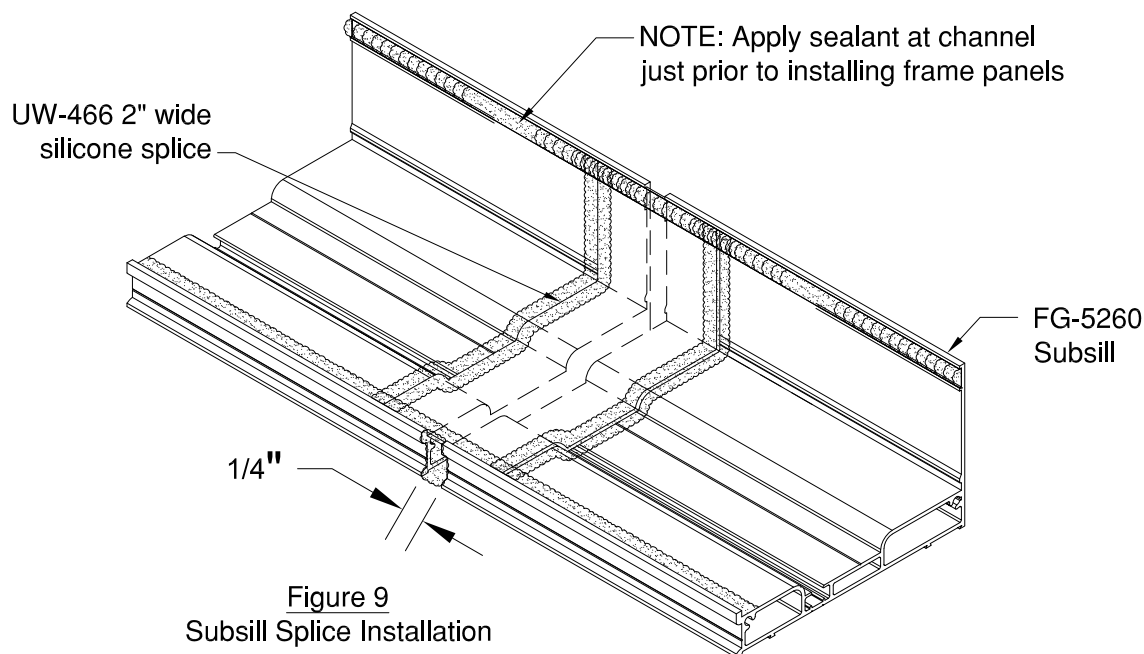

Figure 9
- 2.2.3 Apply sealant to silicone splice sheet as shown at all subsill splices. See Figure 9.